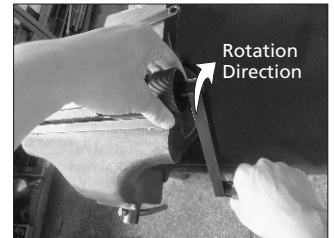

Fig.1-14
14. Rotate the handle clockwise while slowly rotating the feed nut to push forward the cutter head and begin to count the number of turns of the feed nut. When the number of turns reaches the number specified in Table 1-2, stop rotating the feed nut, while keeping rotating the handle until the cutter ceases to cut the tubing. The coning is thus completed. (Fig.1-14)